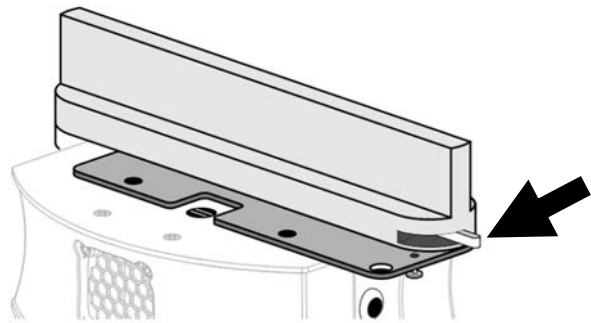

Figure 5. Main mechanical fastener lever
6. See Figure 5. At the end of the track adapter next to the wireless linking button, use the lever (arrowed) to close the main mechanical fastener. This will fix one side of the luminaire into the track and make the connection to the Neutral line inside the track. You must continue to support the weight of the luminaire until you have closed the other mechanical fastener – do not allow the luminaire to hang from one fastener only.